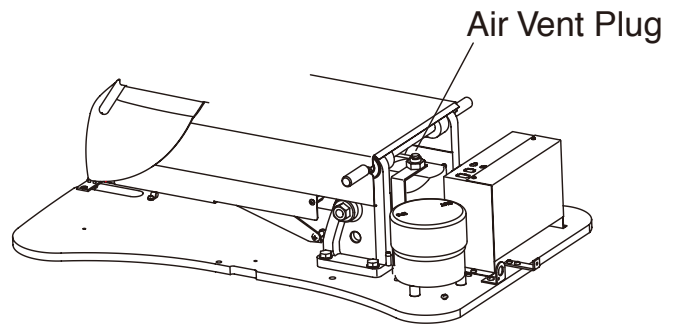

Figure 7
- 14) Locate the red warning tag which is attached by a string to the rubber air vent plug in the pump reservoir. Normally a brisk tug on this tag will release the plug without the need to open the pump covers. (See Figure 7)